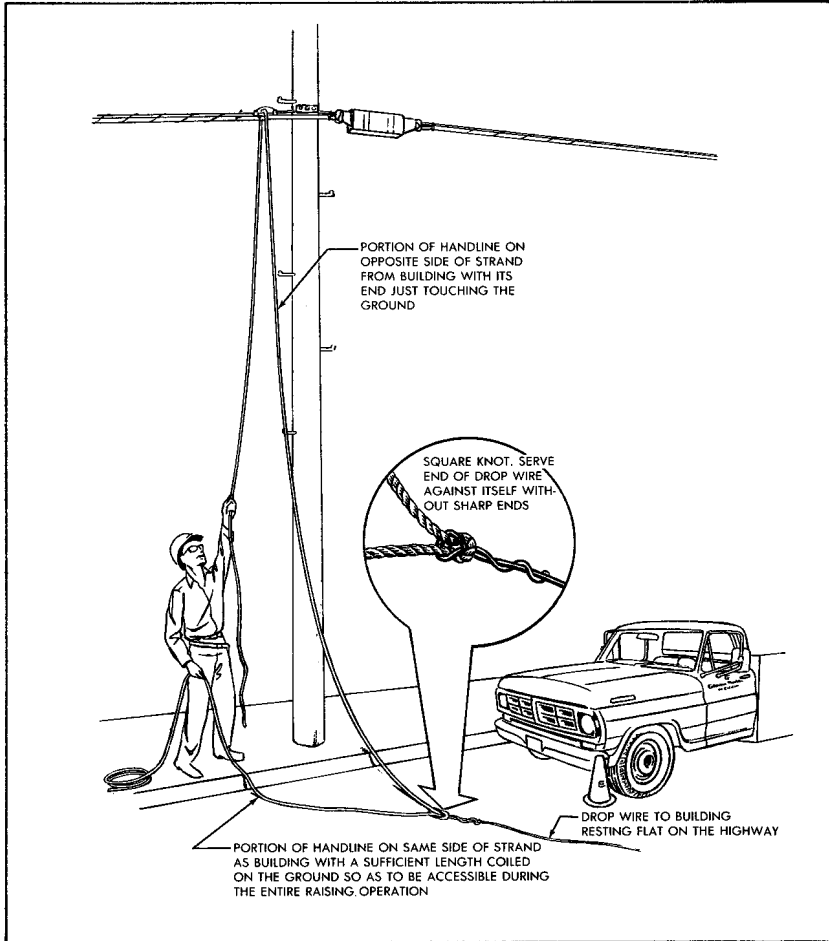

FIGURE 4. Raising the Drop Wire
- c. Tie the end of the drop wire to the handline at a point in that portion of the handline toward the building which will permit the employee to have access to both ends of the handline from the ground during the entire raising operation. See Figure 4.
NOTE: If the drop wire is to be pulled over a drive hook or other support on which the temporary clamp would snag, securely fasten the end of the wire from the drop wire reel to the wire in the span, as shown in Figure 4.